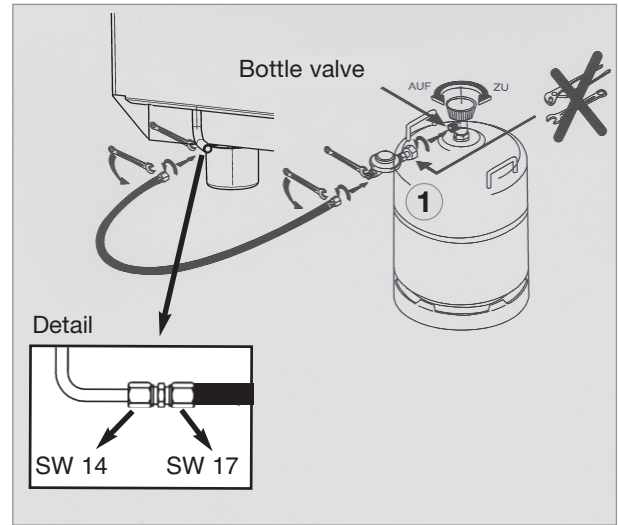

Fig. 3
- A preset pressure regulator **(1)**, Fig. 3, has to be installed within the supplying line to the fridge. The fridge must not be operated with any other pressure than the one indicated on the rating label.